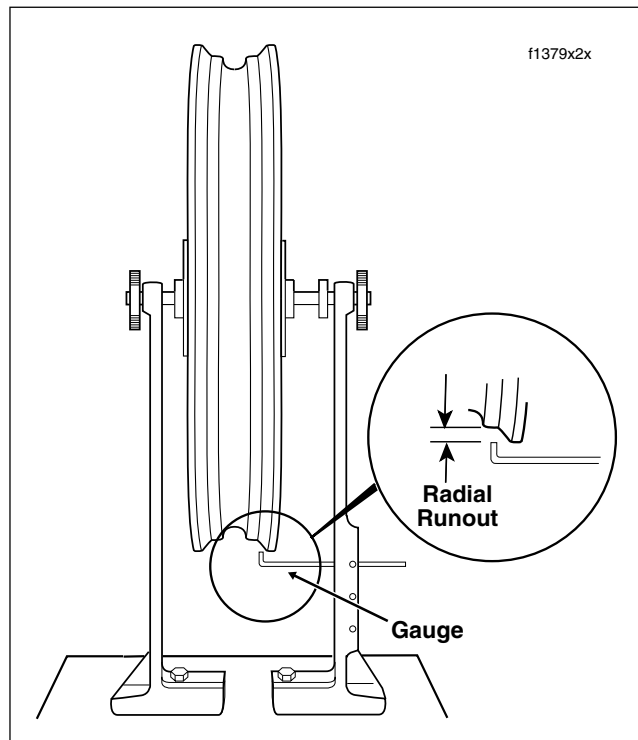

Figure 2-17. Checking Rim Radial Runout
3. See Figure 2-17. Check the rim radial runout as shown. If radial runout exceeds 0.030 inch (0.76 mm), replace the wheel if cast. Retrue the wheel if laced.